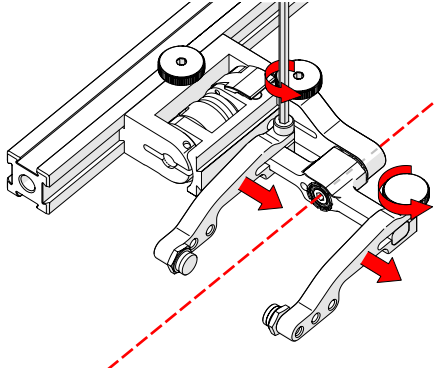

Fig. 134 - Adjust probe holder arms
5. Loosen the probe holder arm adjustment knob (Fig. 134) and remove the outer probe holder arm from yoke.
6. Adjust the inner probe holder arm as required to best centre the probe on the yoke's pivot axis (Fig. 134).
**TIP:** The probe holder yoke can accommodate different probe and wedge sizes of varying widths. It is best to centre the wedge with the yoke's pivot axis to reduce wedge tipping when scanning. Position the inner probe holder arm accordingly with the centre of the yoke (Fig. 134).